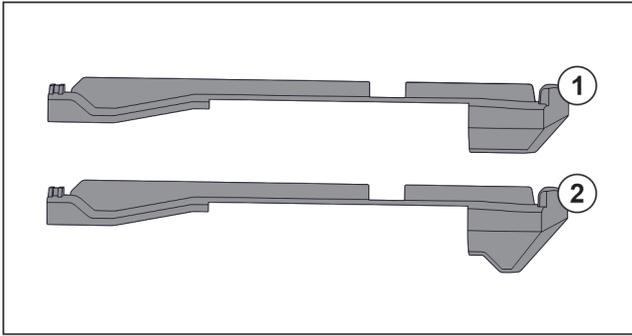

Fig. 62 Comparing attachments
There are two different attachments in the appliance. The attachment above the lowest drawer *Fig. 62 (2)* has a three-cornered edge. All other attachments *Fig. 62 (1)* have a straight edge.
- ▶ Fit attachment *Fig. 62 (2)* with the three-cornered edge above the lowest drawer.
- ▶ Fit attachment *Fig. 62 (1)* with straight edge in all other positions.